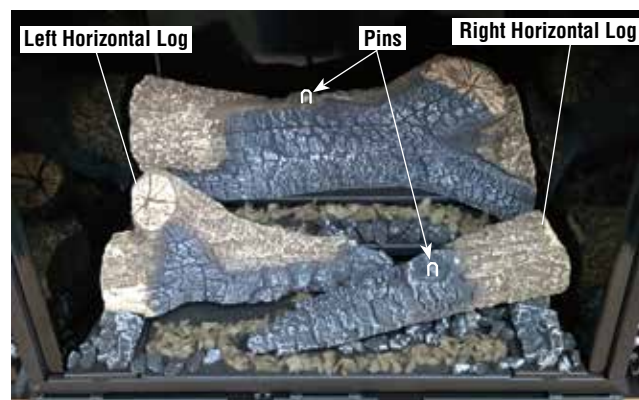

Figure 20
6. Install the left and right horizontal logs as shown in **Figure 20**.